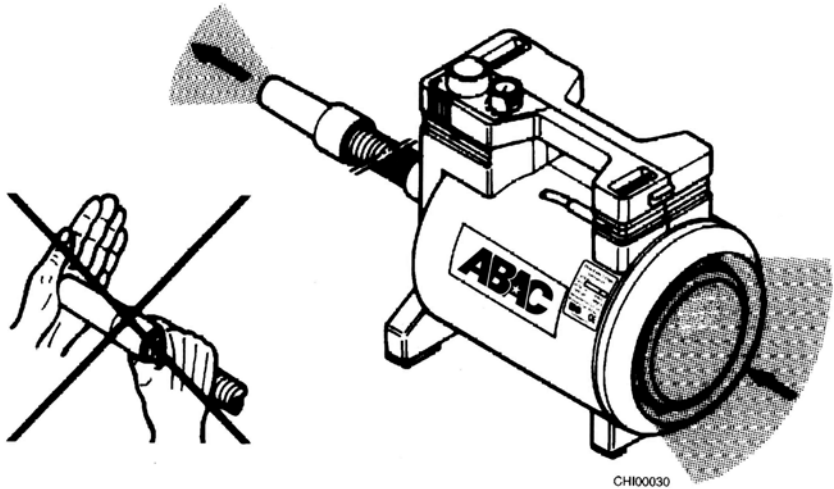

Fig. 2
- The air flow inside your SG 90 E Blower Unit must not be obstructed to ensure continuous adequate cooling of the blower motor - see figure 2.